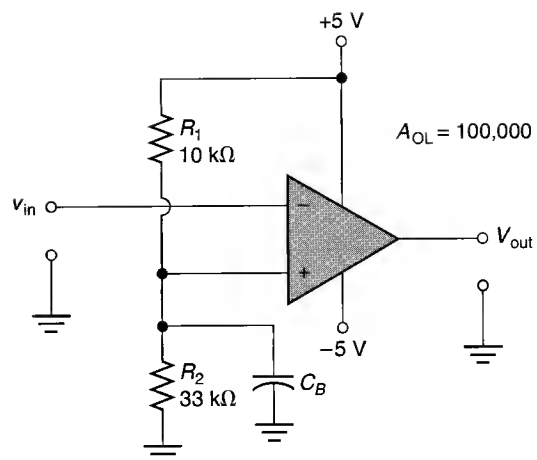

FIGURE 16.35
- Determine the value of V_{ref} for the comparator in Figure 16.35.